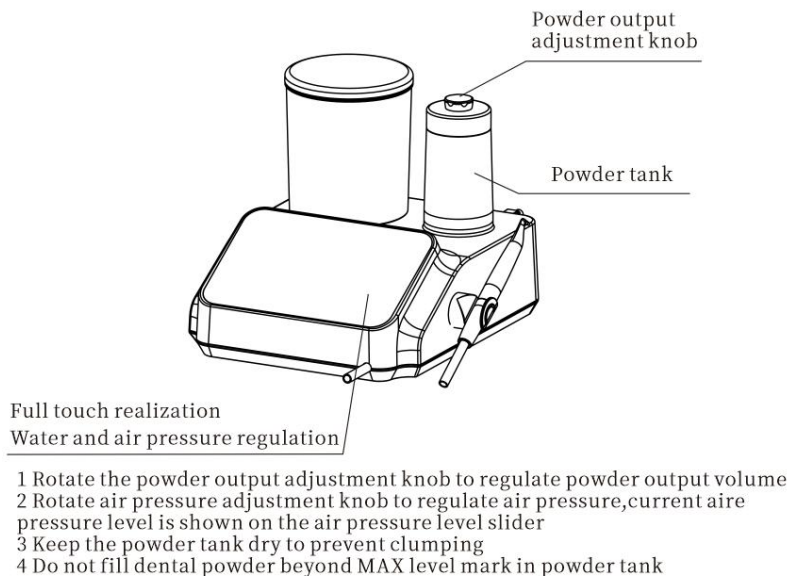

Figure 17
3. Fill a proper amount of water into the water bottle and insert the bottle into the slot above the main unit (Figure 16, Figure 17).